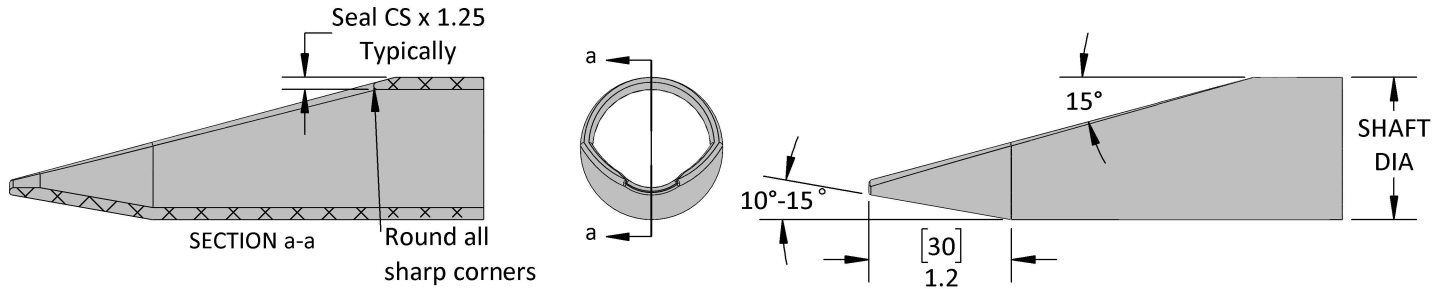

Figure 23: Typical Rod Resizing Tool Design
- a. **Kidney-shape Method:** Deform the PTFE seal into the gland (see Figures 24-29 for a step by step process installing a 2pc rod seal consisting of an o-ring and PTFE seal) and use a rod resizing tool (Figure 23) to resize the seal for use. Alternatively, another option is to use your fingers and a mandrel with a 1.2 [30] x 10-15° taper lead-in to resize the seal. Consult TLon for installation tool pricing.